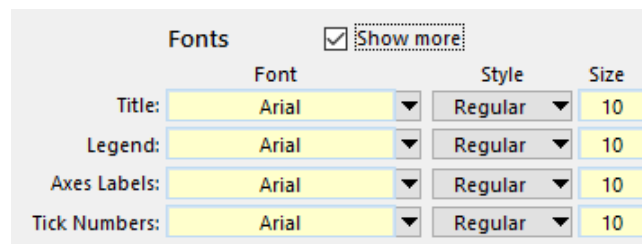

Figure 9. Controls for four types of labels when the Show more box is checked.
- ⑩ Checkbox for showing more options for font properties. If checked, separate controls are shown for four kinds of labels (Figure 9).
- ⑪ Font settings for text shown in the plot labels. If the **Show more** box ⑩ is unchecked, these settings apply to all text; if checked, separate controls are shown for the title, legend, axis labels, and tick numbers (Figure 9).
- ⑫ Title position. This drop-down list has three options: **Title above plot**, **No title**, and **Title below plot**.
- ⑬ Checkbox for showing a miscellaneous yellow field and generic blue link (Figure 9). These allow advanced users to provide custom settings not supported by the built-in controls.